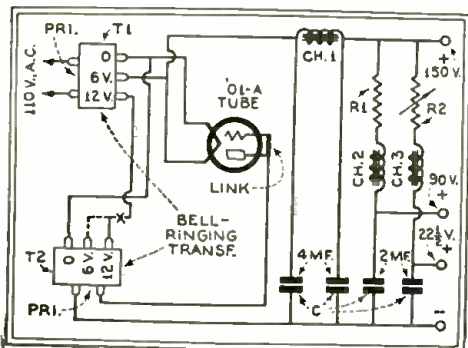

Fig. 2
**T**HE experimenter may not be aware of the fact that a very simple "B" eliminator may be constructed at low cost through the use of a couple of ordinary bell-ringing transformers. As illustrated in Fig. 2 these should be of a type which delivers 12 volts at two of its terminals, with a third connection at 6 volts. The plate current requirements of small receivers will be met if a type 01A tube is used as the rectifier; its plate and grid are linked together, as shown.
The 12-volts output of this secondary may be connected as shown by the solid lines in Fig. 2, resulting in output voltages not exceeding the line potential; by connecting transformer T2 as shown by the dotted line, breaking the 12-volt lead at X, the output voltage may be doubled at a sacrifice in output current.